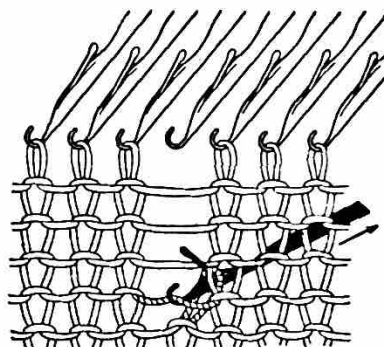

Fig. 34
3. Now pull the latch hook away from you. The latch will close and the yarn on the hook will be trapped (Fig. 34).